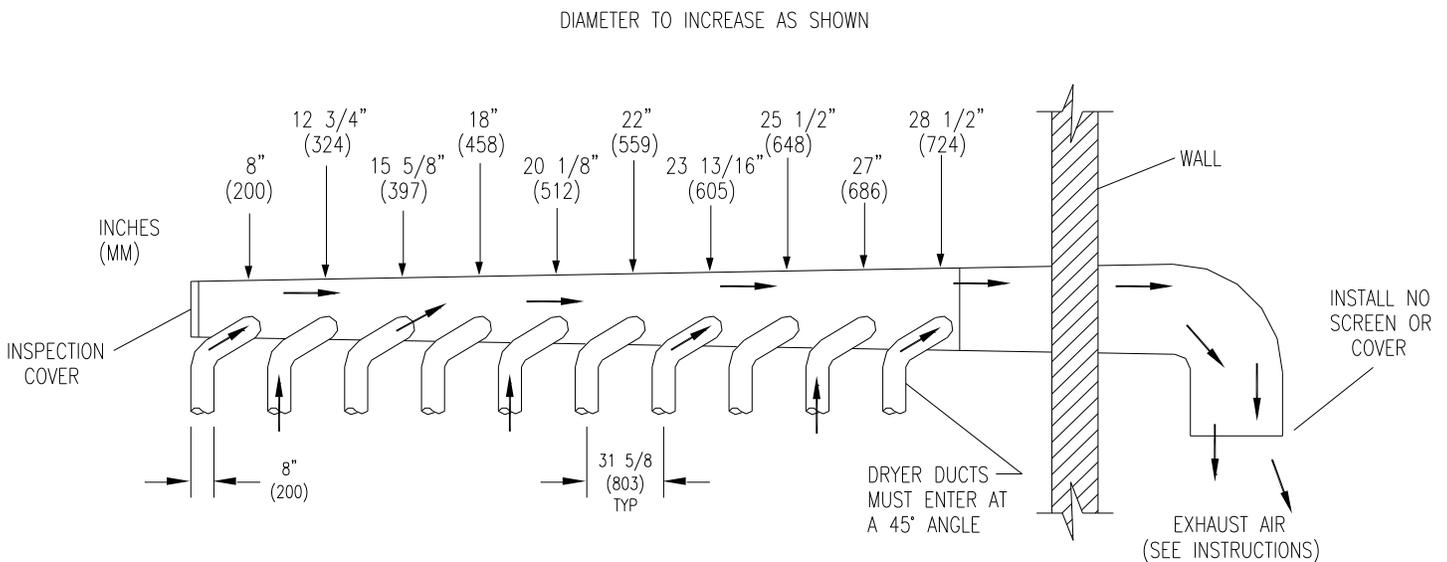

FIGURE 3- Dryer Exhausting Using A Main Discharge Duct.
6. **EXHAUST INSTALLATION.** (Refer to Figure 3) Exhausting of the dryer(s) should be planned and constructed so that no air restrictions occur. Any restriction due to pipe size or type of installation can cause slow drying time, excessive heat, and lint in the room.
Installation of several dryers, where a main discharge duct is necessary, will need the following considerations for installation (see Figure 3). Individual 8" (200 mm) exhaust ducts from each dryer should enter main discharge duct at a 45-degree angle in the direction of discharge airflow.
NOTE: Never install the individual ducts at a right angle into the main discharge duct. The individual ducts from the dryers can enter at the sides or bottom of the main discharge duct. Figure 3 indicates the various round main duct diameters to use with the individual dryer ducts. The main duct can be rectangular or round, provided adequate airflow is maintained. The total exhausting (main discharge duct plus duct outlet from the dryer) should not exceed the equivalent of 14 ft. (4.25 m) and two elbows. The diameter of the main discharge duct at the last dryer must be maintained to exhaust end.